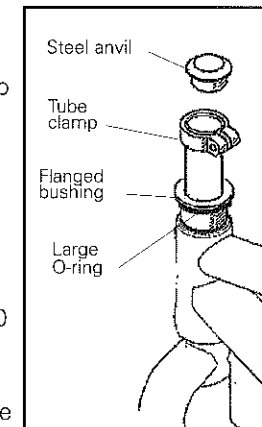

Fig. 48
1. Install the **large rubber O-ring** onto the **flanged bushing** (Fig. 48).